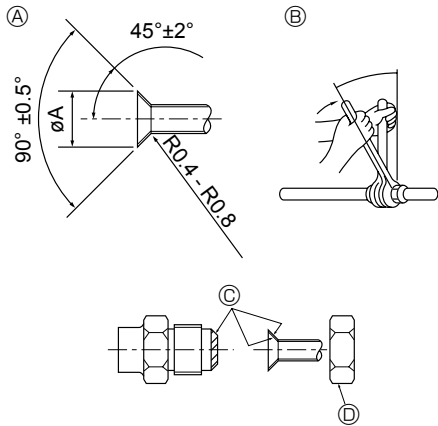

Fig. 4-1
- 4.1. Rohranschlüsse (Fig. 4-1)